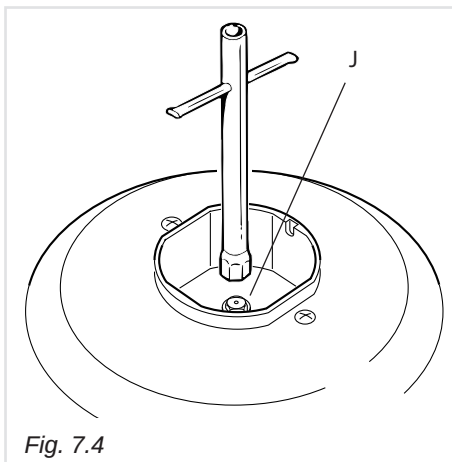

Fig. 7.4
- Using a wrench, substitute the nozzle injectors "J" (fig. 7.4) with those most suitable for the kind of gas for which it is to be used.